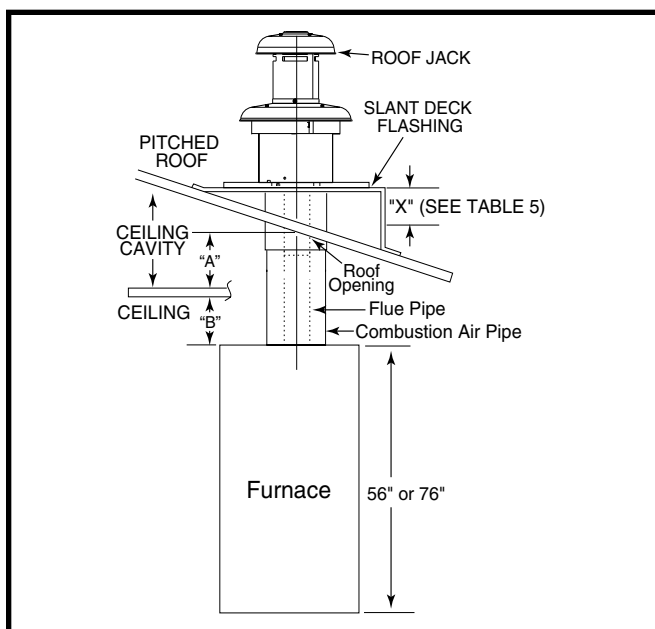

Figure 16. Ceiling Cavity Depth
1. Determine depth of ceiling cavity from center of roof opening to center of ceiling opening (Dimension A in Figure 16).
2. Determine ceiling height and subtract height of furnace (Dimension B in Figure 16).